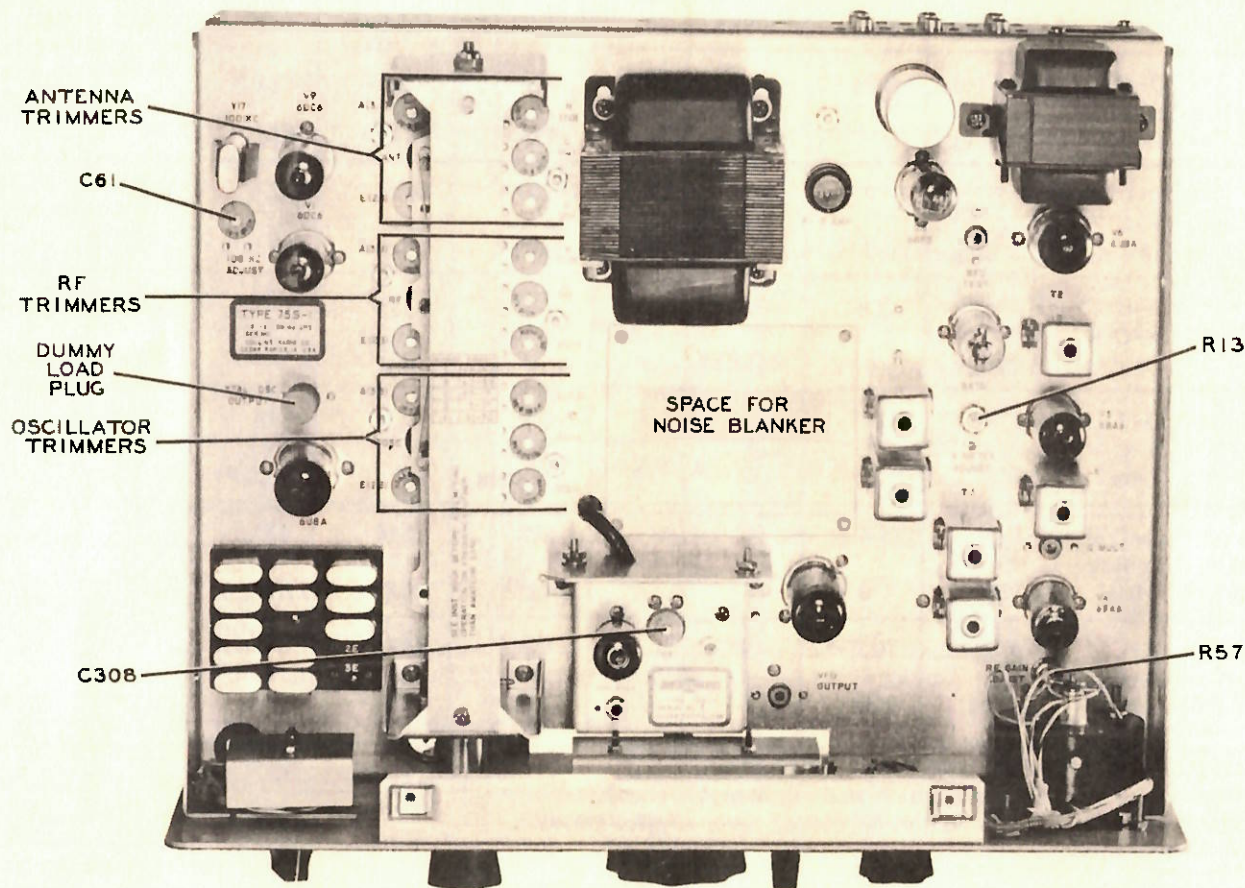

Figure 4-1. Location of Adjustments
4.4 ALIGNMENT PROCEDURE. (Refer to figure 4-1.)
4.4.3 R-F CIRCUIT ALIGNMENTS. (Refer to figure 4-1 for trimmer identification.)
a. Set both (A) 3.8 RF and ANT trimmer capacitors so the large notches point straight to the rear of the chassis. Set the (A) 3.8 OSC trimmer so its large notch points at V1. Leave tuning dial set at 100 for the following steps.
e. Adjust (A) 3.8 OSC tuning slug for maximum output on vtvm.
f. Adjust (A) 3.8 RF and ANT slugs for peak S-meter indication.
h. Adjust (E) 28 OSC trimmer for peak vtvm indication.
i. Adjust (E) 28 RF and ANT trimmers for peak S-meter indication. Adjust signal generator output level as necessary to keep S-meter indication at S-3.